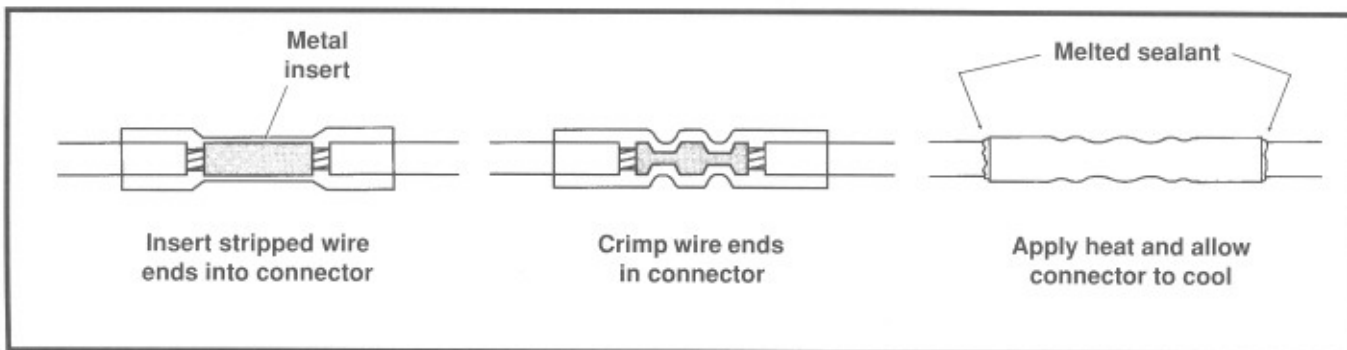

Figure 7-108 Installing Sealed Butt Connectors
2. Insert wires into opposite ends of the butt splice connector (see Figure 7-108). Feed the wires into the connector until the stripped ends are housed within the metal insert. Since the size of the connectors vary with the gauge of the wire, reference the following table to ensure properly sealed splices.
4. Using the UltraTorch UT-100 (HD-39969), Robinair Heat Gun (HD-25070) with heatshrink attachment (HD-41183) or other suitable radiant heating device, heat the crimped splice to encapsulate the butt splice connection. Apply heat from the center of the crimp out to each end until the meltable sealant exudes out both ends of the connector (see Figure 7-108).